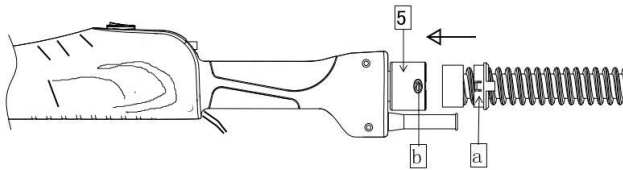

Fig .3
7. Connection Set for Dust Outlet (Fig .3 / 4)
——**Installation Guide** (Fig .3)